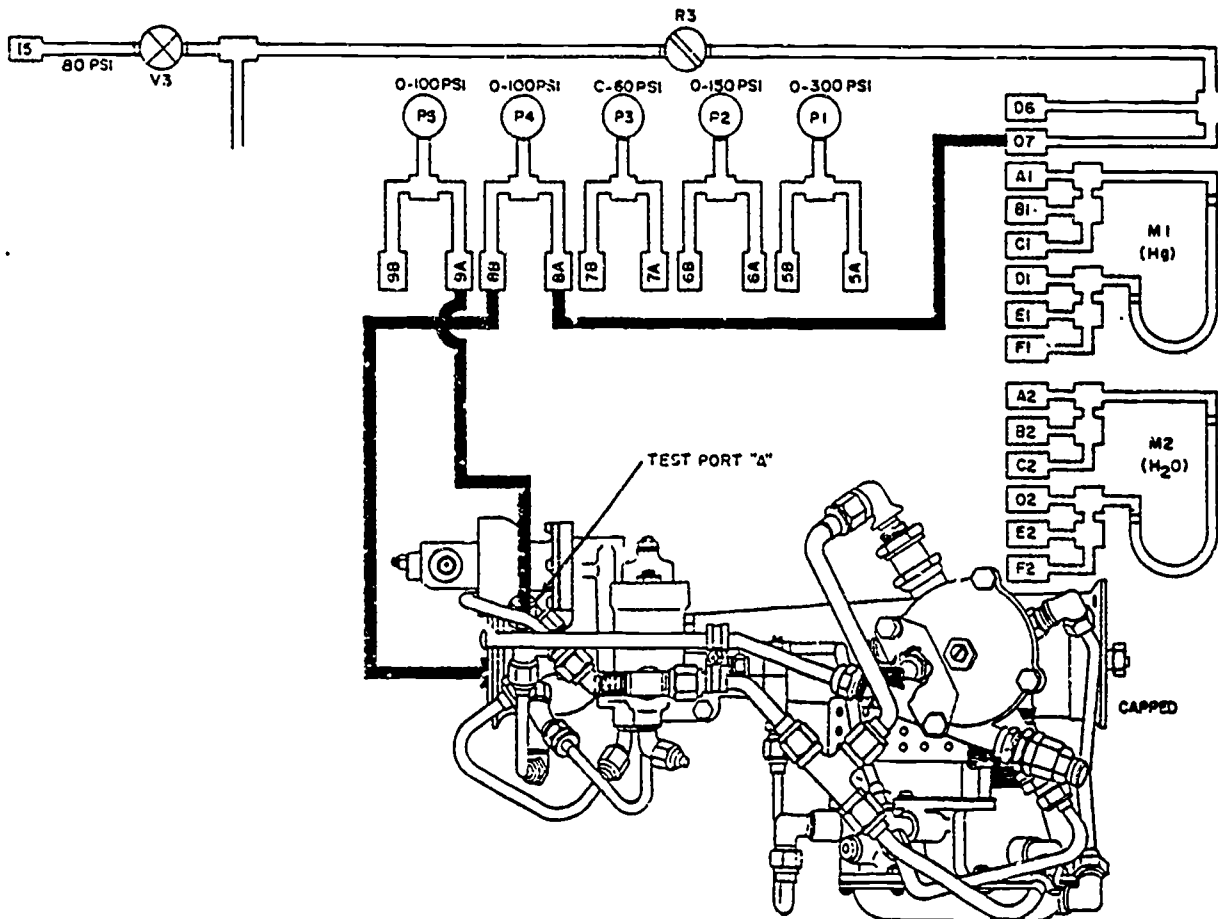

Figure 2
5. Look at figure 2 when connecting the pneumatic hoses to the trainer pneumatic patching panel and to the valve. The hoses are shown by heavy black lines. Check off each item on your response sheet.